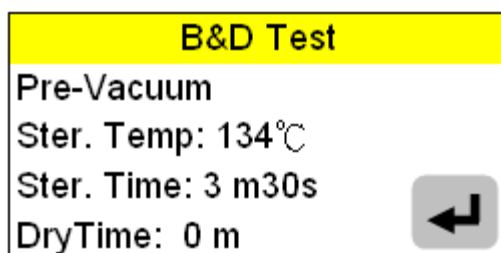

Figure 106
- E. Press  button to confirm the selection of B&D Test Program, as shown in Figure 106.